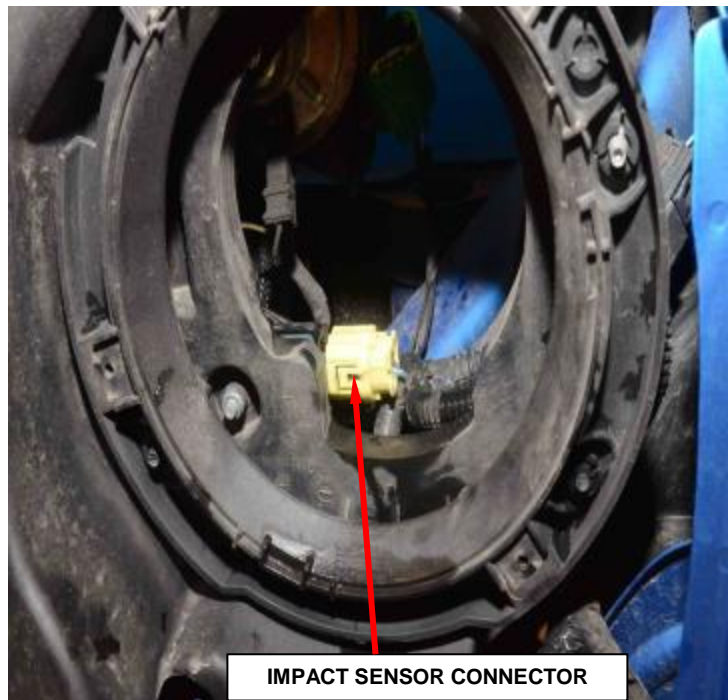

Figure 12 - Left Side Impact Sensor
32. Disconnect the left side engine compartment wire harness connector from the left front impact sensor connector receptacle (Figure 12).
52. Connect the left front impact sensor connector (Figure 12).